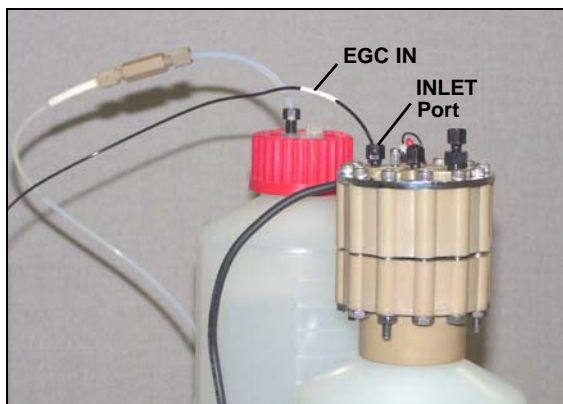

Figure B-39. EGC Inlet Port Connections
5. Connect **EGC IN** to the **EGC INLET** port (see Figure B-39).